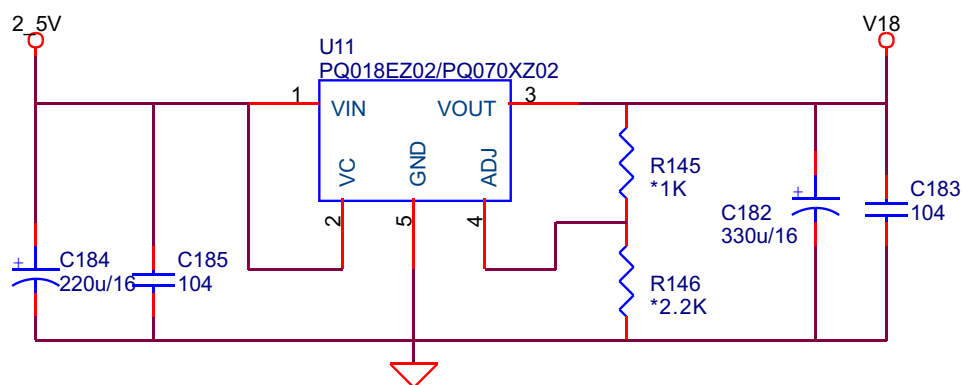

Figure 3.2.8.1 1.8V voltage regulating circuit
1. 1.8V voltage regulating circuit, shown in the figure 3.2.8.1, is mainly provided for the usage of the logic circuit inside decode chip, 2.5V power inputs from pin 1 of U11, after being voltage regulated by